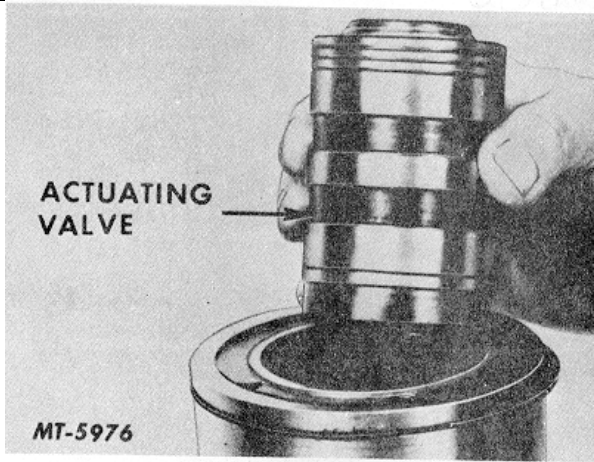

Fig. 24
21. Pull actuating valve from the piston. Do not force valve from the piston assembly, Fig. 24.
When a new bushing is pressed into the cover, the face of the bushing must be flush with the cover, Fig. 24. When reinstalling bushing in output shaft bore of housing, if it goes in easily and heavy press resistance is not encountered, carefully remove bushing. Thoroughly clean bushing of oil and grease and clean bore of foreign material by scraping with a piece of brass sheet. Bushing and bore should then be completely washed and dried. Coat exterior of bore and bushing with Loc-tite high strength retainer compound. Reinstall bushing and allow a minimum of six hours curing time. When the curing time has elapsed, any excess Loc-tite in quad ring groove or elsewhere should be removed by washing with naphtha.